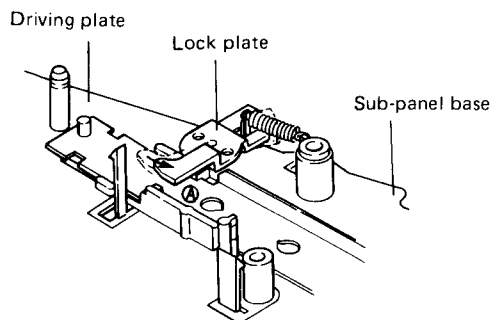

Fig. 11-10 Cam assembly attachment
The cam assembly is attached by letting the lock plate go in the direction ① as shown in Fig. 11-10.